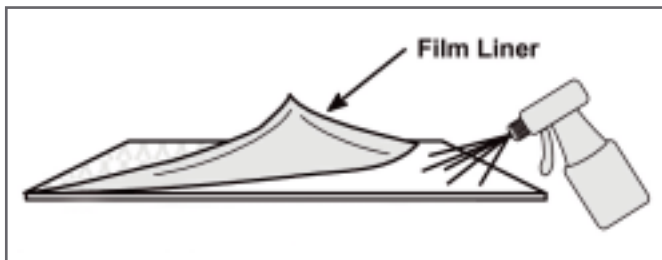

Fig 1: Lift corner of liner while spraying
4. Lift one corner of the liner while spraying the water onto the exposed adhesive. See Fig 1.